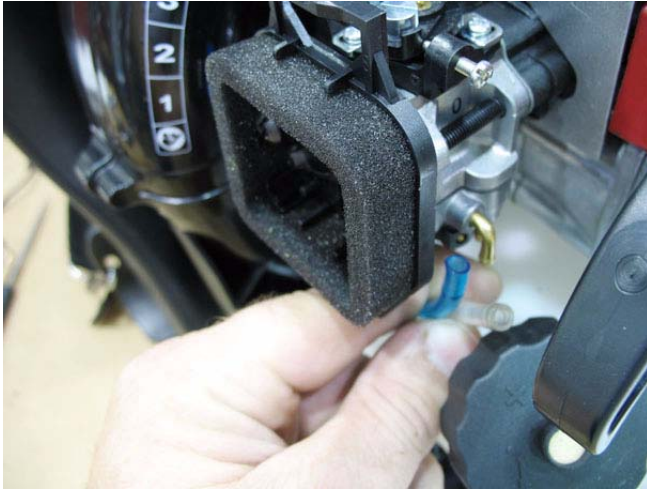

Figure 9.1
- 1a. Disconnect the fuel lines from the carburetor. See Figure 9.1.